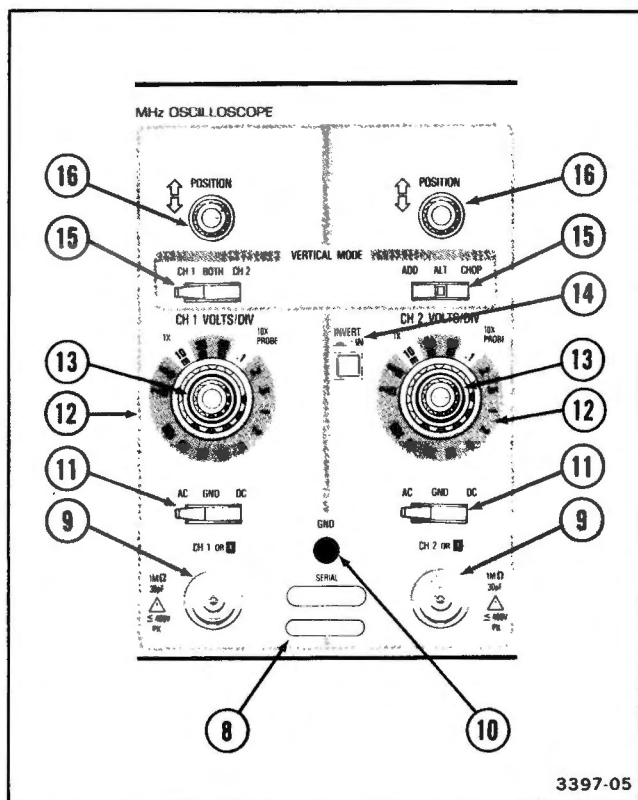

Figure 2-4. Vertical controls and connectors.
Refer to Figure 2-4 for location of items 8 through 16.
- ⑧ **SERIAL and Mod Slots**—The SERIAL slot is imprinted with the instrument's serial number. The Mod slot contains the option number that has been installed in the instrument.
- ⑨ **CH 1 OR X and CH 2 OR Y Connectors**—Provide for application of external signals to the inputs of the vertical deflection system or for an X-Y display. In the X-Y mode, the signal connected to the CH 1 OR X connector provides horizontal deflection, and the signal connected to the CH 2 OR Y connector provides vertical deflection.
- ⑩ **GND Connector**—Provides direct connection to instrument chassis ground.